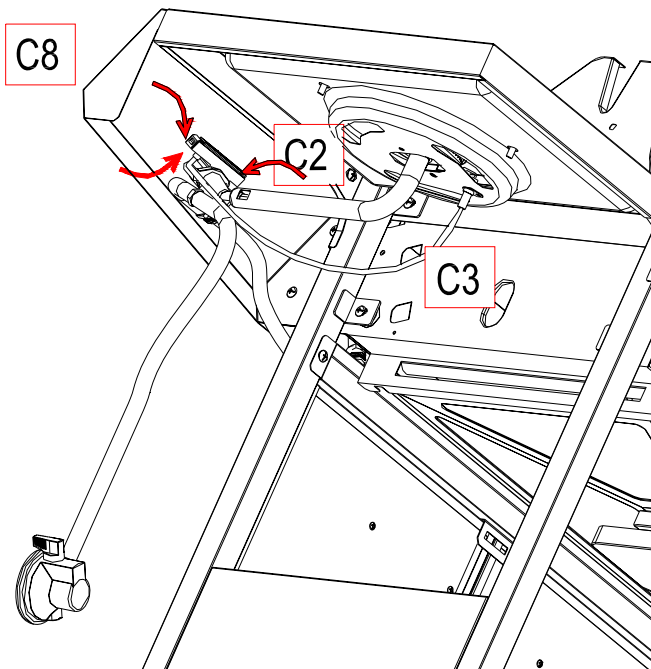

Fig 14c
3. Loose the M4*8 screw at the bottom of the Side Burner (C4) first. Then align the burner venturi of Side Burner (C2) with the side burner valve. When alignment is done, fix the Side Burner (C2) on the Side Burner Assembly (C4) by the M4*8 screw and tighten it as fig 14c.